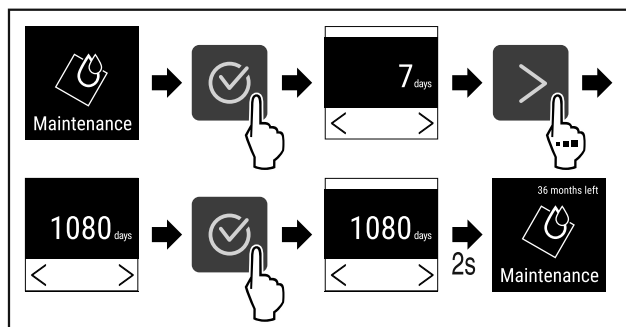

Fig. 78
- ▶ Complete steps (see Fig. 78) .